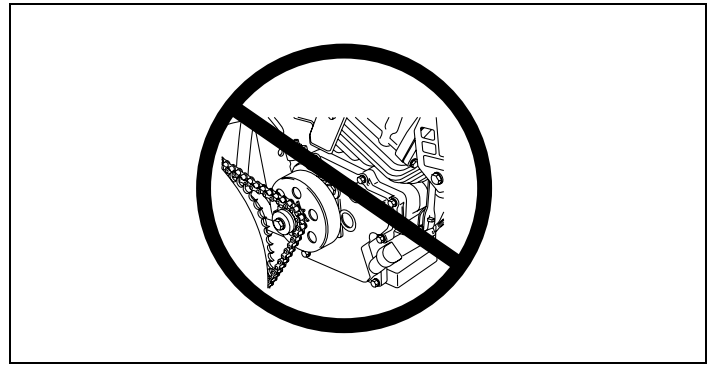
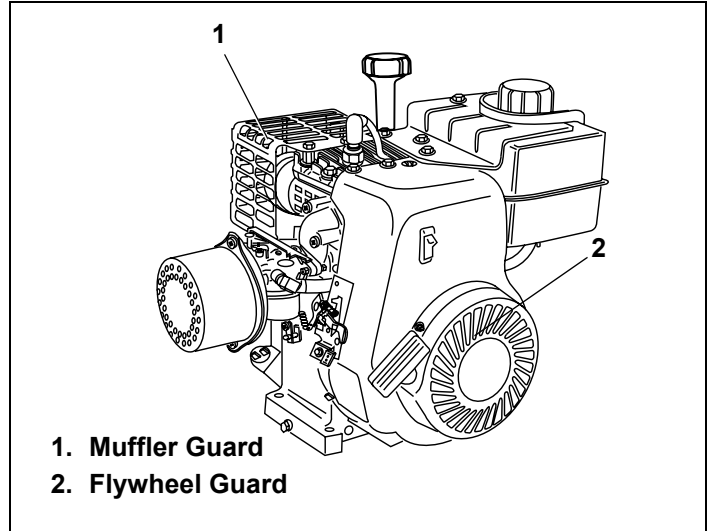

Figure 1. DO NOT Use Without Engine Shaft Guard
Figure 2. Typical Engine Guard Locations
NEVER operate the engine with an unguarded engine shaft. See Figure 1.
The equipment manufacturer may attach a sprocket and chain or pulley and belt to the engine shaft. If these parts are not properly guarded, or if you are not sure whether they are properly guarded, DO NOT use your engine; contact the equipment manufacturer. Hands, feet, hair, jewelry, clothing, etc. can become entangled in rotating parts, leading to serious injury or death. To avoid serious injury or death, be sure the flywheel guard is in place. See Figure 1. See Figure 2.
- To avoid severe burns on contact, NEVER operate the engine without the muffler guard in place, see Figure 2. and avoid hot areas of the engine.